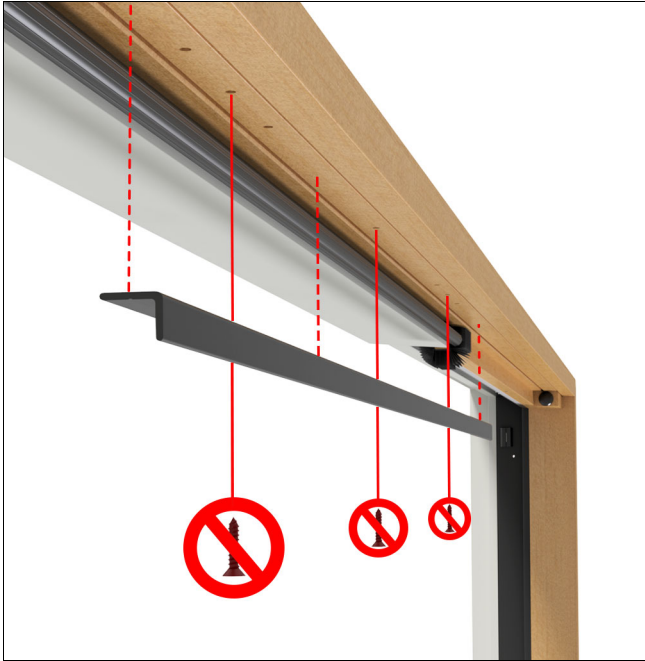

Figure 29
1. Temporarily remove the operator panel guide from the head jamb. Discard these screws, you will reinstall the panel guide with longer screws later once the door is installed in the opening. See Figure 29.